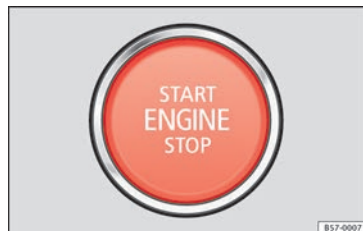

Fig. 149 In the lower part of the centre console: starter button.
Briefly press the starter button » Fig. 149 without pressing the accelerator. For the engine to start there must be a valid key in the vehicle. After starting the engine, the light of the **START ENGINE STOP** button changes to a fixed light indicating that the engine has started.
5.	Briefly press the start-up button » Fig. 149. The (START ENGINE STOP) button blinks again. If the engine fails to switch off, perform an emergency disconnect » page 159.